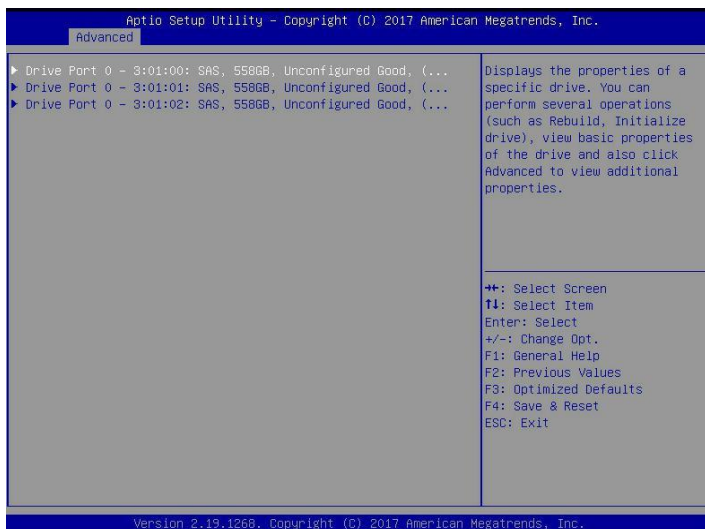

Figure 6-56
b) Enter the interface of Figure 6-56, select the disk to be located, and press Enter.
❖ Figure 6-56 Select the disk to be located